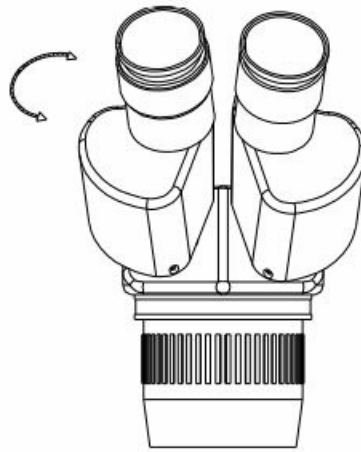

Figure 4
1. Adjust the two eyepieces along the direction of the arrow shown in Figure 4 until the eyepiece feels comfortable and a single image is seen.